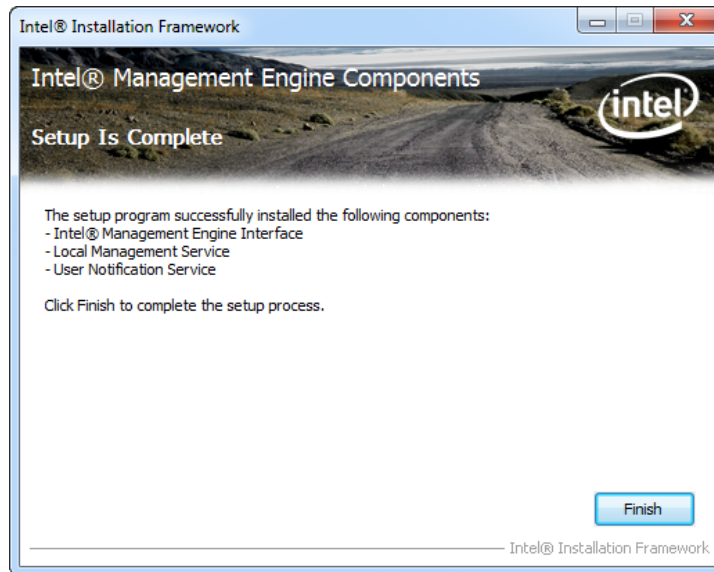

Figure 8-26: Intel® ME Driver Installation Finish Screen
Step 13: The **Finish** screen in Figure 8-26 appears.